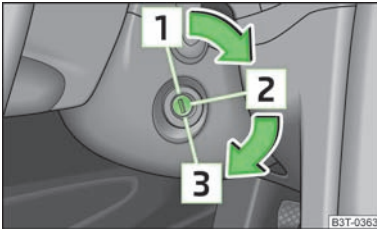

Fig. 113
- Fully depress and hold the clutch pedal, switch on the ignition **2** and start **3** » Fig. 113 - do not operate the accelerator. Depress the clutch pedal until the engine starts.
Switch off the engine by turning the ignition key into position **1** » Fig. 113.